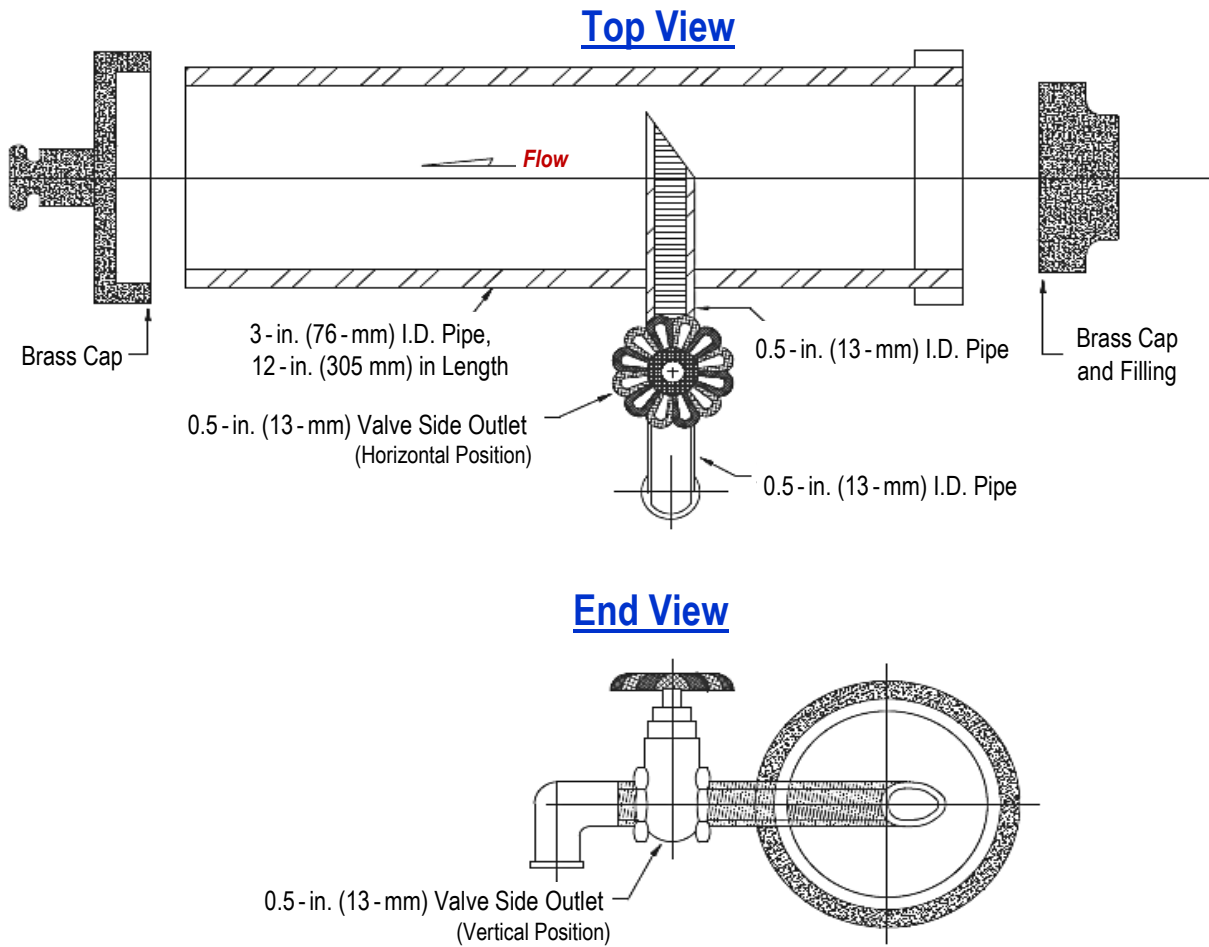

Figure 5
- 8.5.1 *Sampling Pipe Fitting.* Sampling can also be done by mounting a detachable or permanent sampling pipe fitting in the discharge line, between the unloading pipe and hose, and close to the end. Figure 5 demonstrates schematics of a detachable sampling pipe fitting device. When unloading tanker trucks, using this device slowly, collect a sample from the middle third of the unloading process.